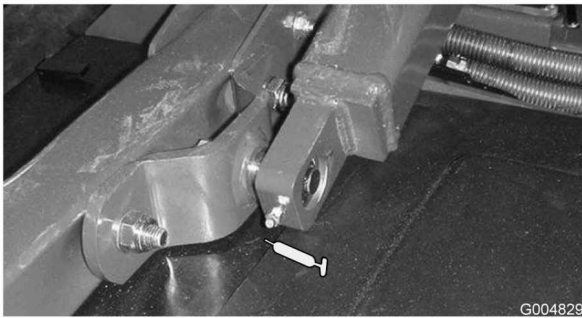

Figure 42
- Lift arm ball joints (2) (Figure 42)